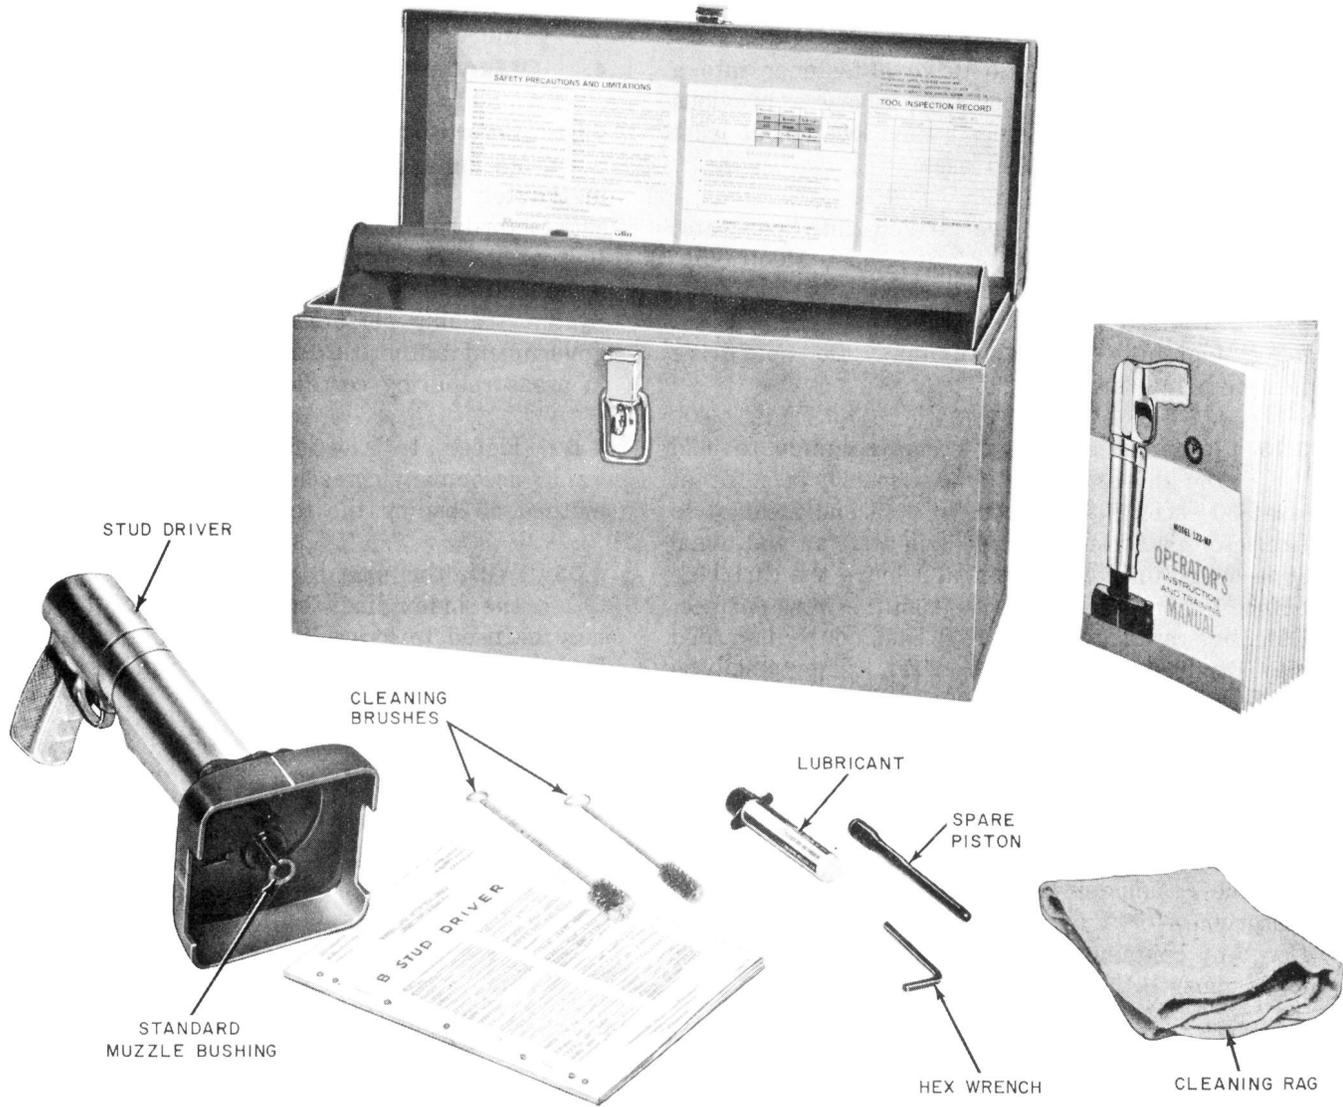

Fig. 2—B Stud Driver—Typical
2.02 The stud driver is supplied in a metal carrying case that shall be locked when the tool is not in use to prevent unauthorized use of the tool. Included in the case are cleaning equipment, accessory items, an instruction manual, and a copy of Bell System Practice 075-130-301. A typical tool and items supplied are illustrated in Fig. 2.